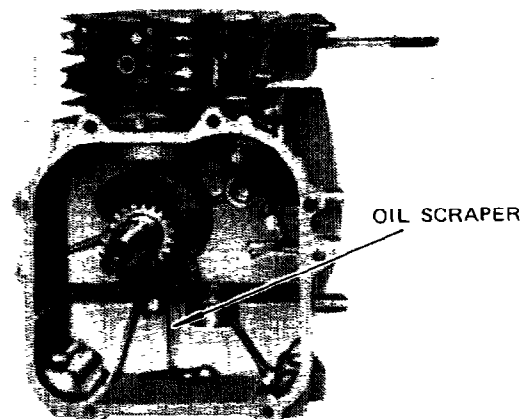

Fig. 12-14
- 2) The cap is installed with the oil scraper positioned right-downward. (See Fig. 12-14.)